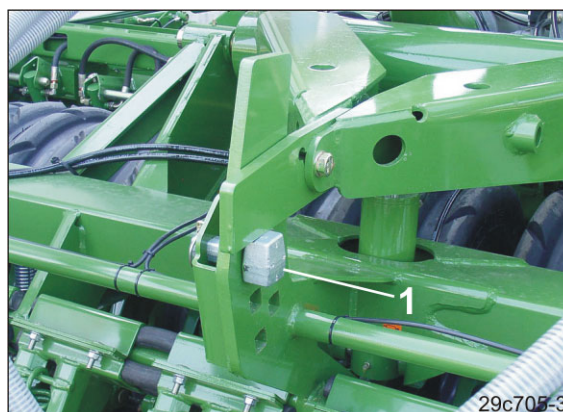

Fig. 235
8. Position the depth regulation bolt (Fig. 235/1) with the number "1" pointing upwards in all segments in the top hole of the adjusting segments and secure (see section 8.5, on page 128). Necessary so that the coulters do not touch the ground.